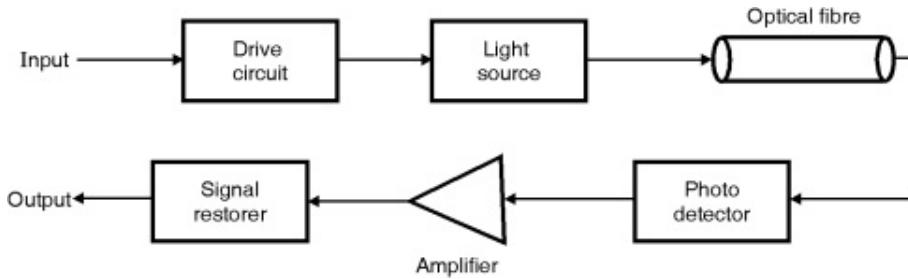

Fig. 5.10.1
- The fibre optical commutations system is very much similar to that of a traditional communication system. Fig. 5.10.1 shows optical fibre communication system Light waves which are carrier waves, are generated by a LED or a laser diode.